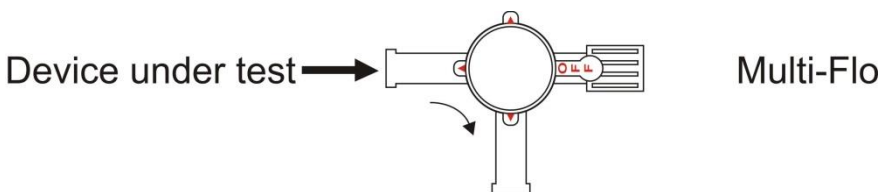

Figure 2
- i. Turn the 3-port valve to the position shown in figure 2.
After priming the Multi-Flo, as described in section 3, connect an administration set between the device under test and the 3-port valve as shown in figure 2.